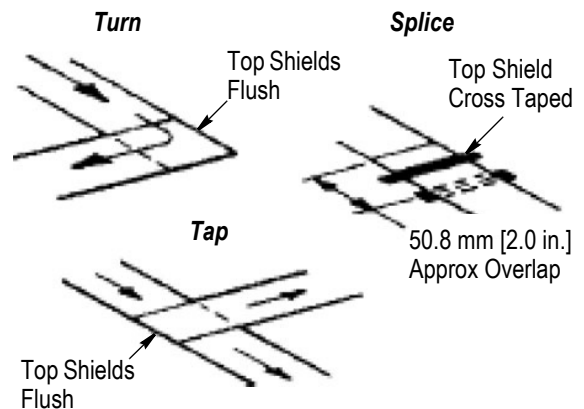

Figure 5
2. Lay the taps, splices, and turns as required. For taps and turns, trim the two top shields flush with each other. Overlap the edges by approximately 50.8 mm [2.0 in.], then tape the overlapping edges to prevent creeping. Continue laying the top shield to the end of the cable run. Refer to Figure 5.
- Removed Figure 5